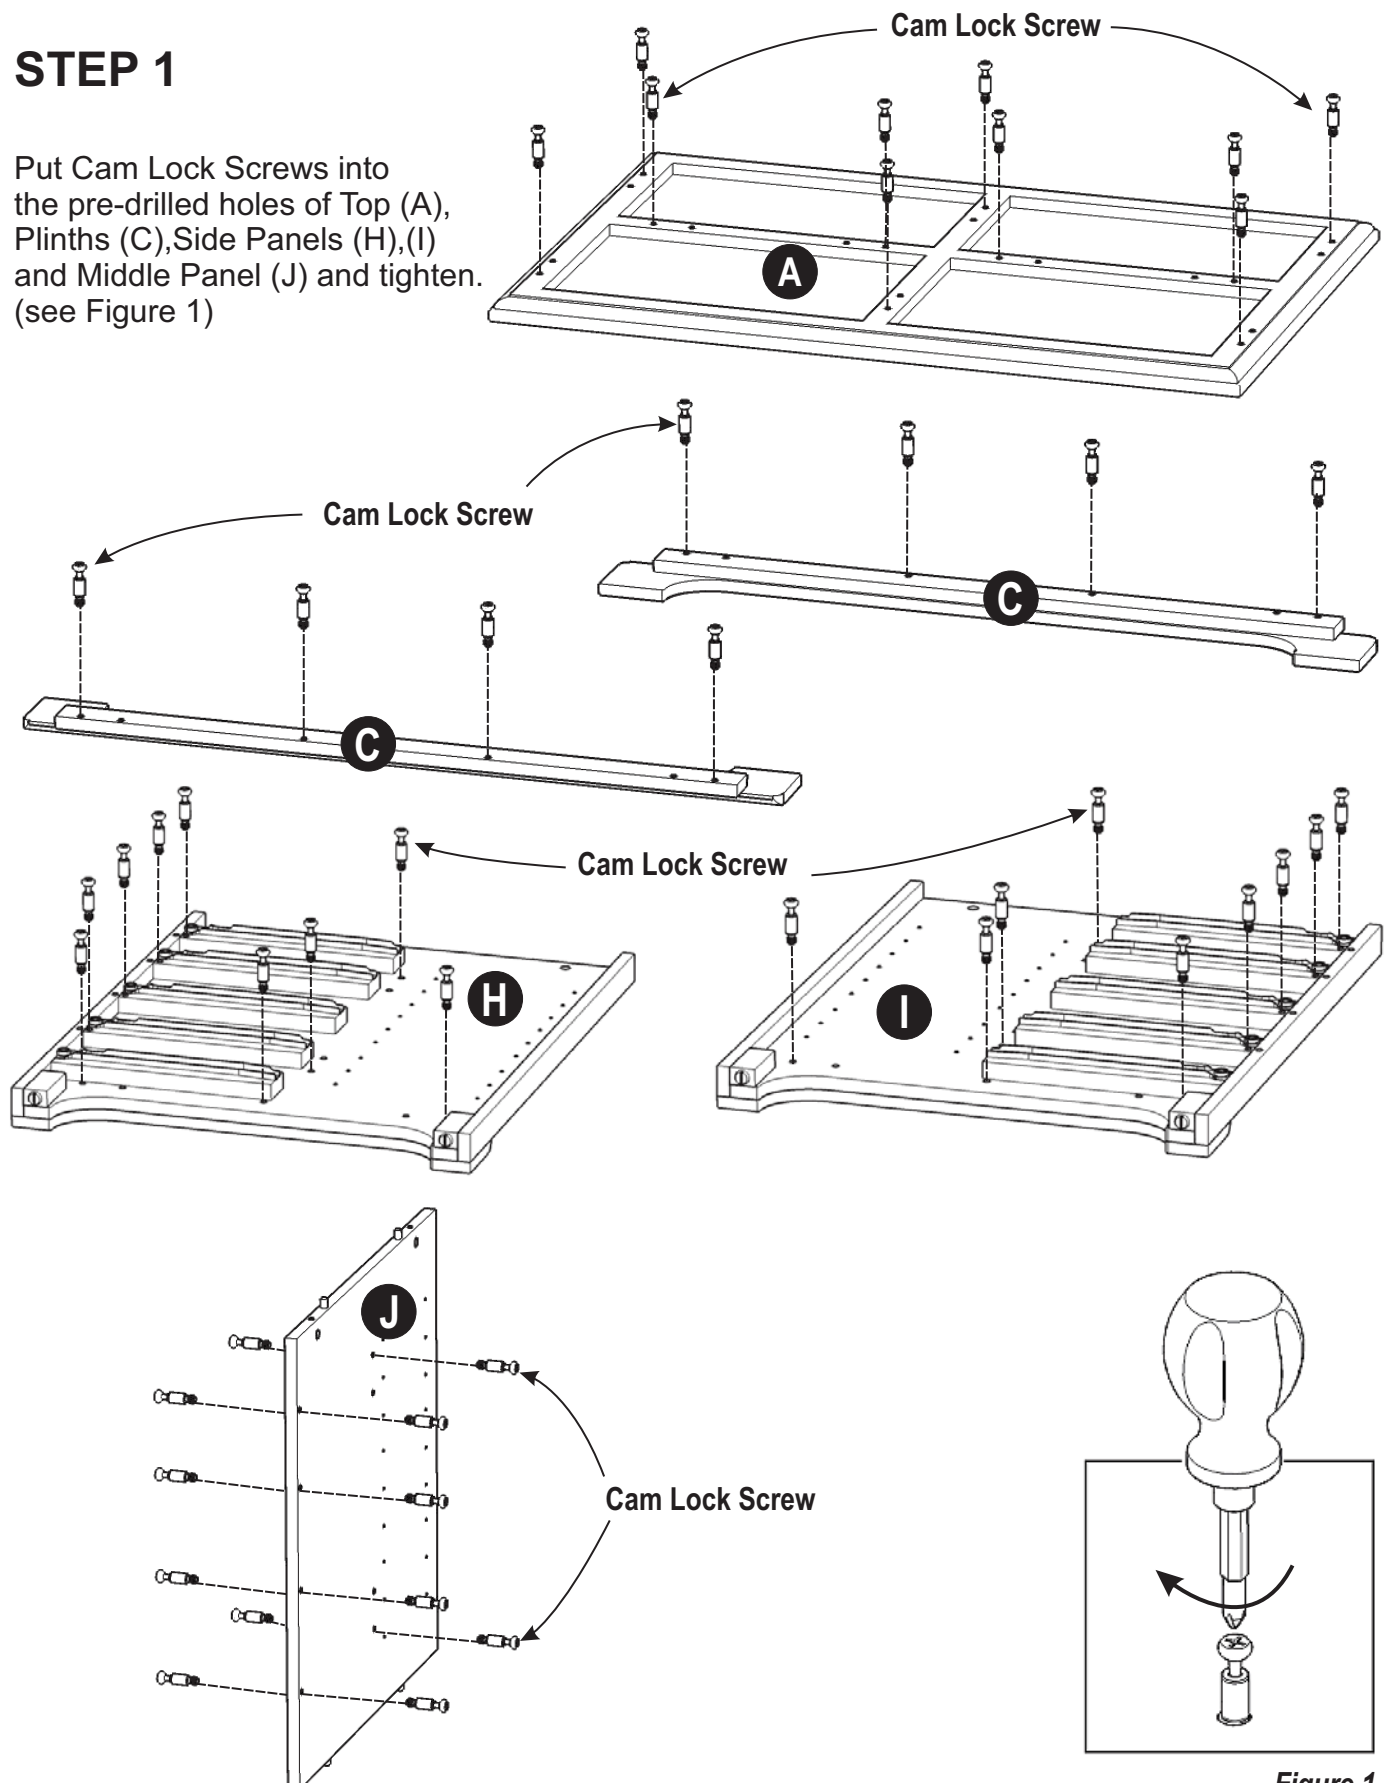

Figure 1
Put Cam Lock Screws into the pre-drilled holes of Top (A), Plinths (C), Side Panels (H),(I) and Middle Panel (J) and tighten. (see Figure 1)
Attach G2 to G3 and G4 using long wood screws (4X), tighten halfway. (See Figure 1)
Attach N2 to N3 and N4 using long wood screws (4X), tighten halfway. (See Figure 1)